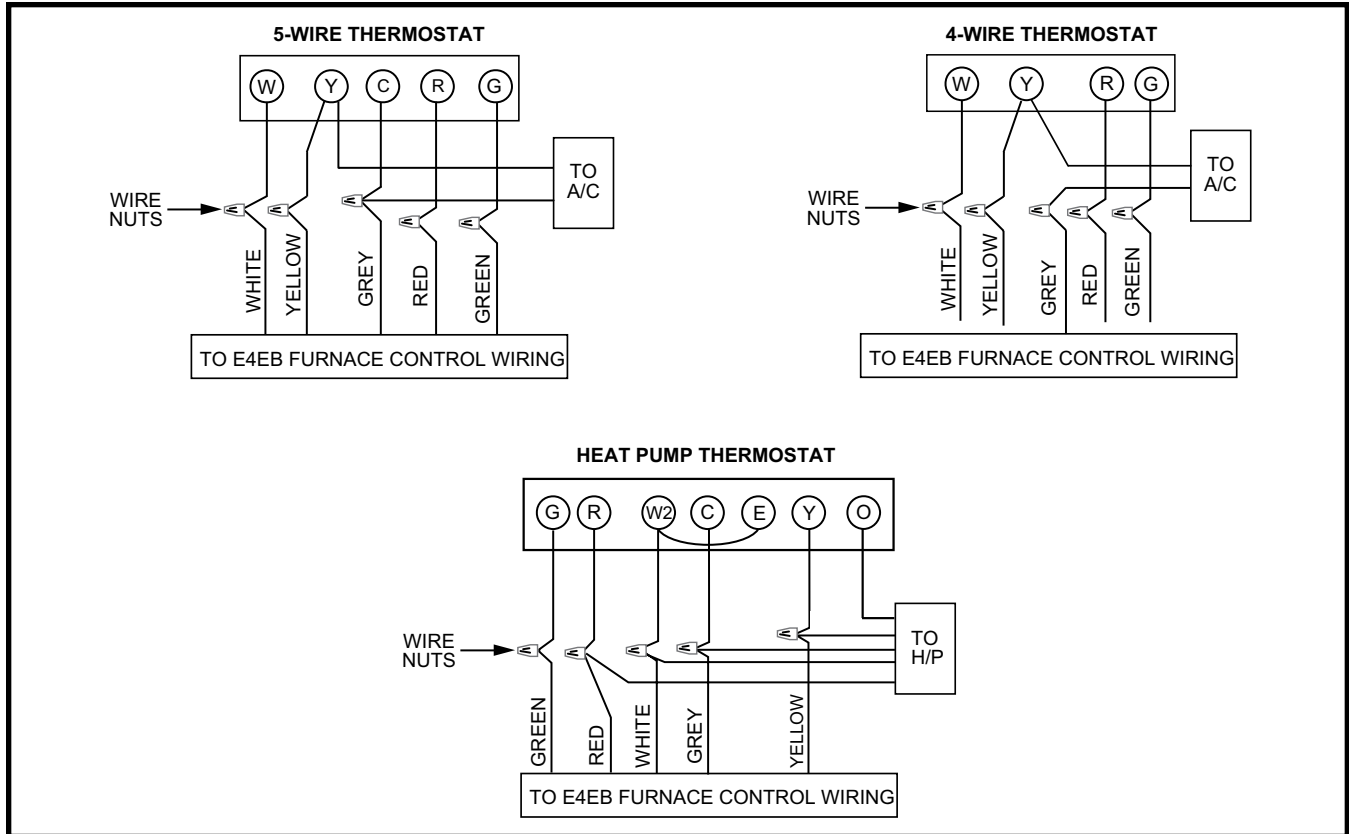

Figure 21. E6EB Thermostat Connection
- The thermostat should be mounted about 5 feet above the floor on an inside wall. DO NOT install the thermostat on an outside wall or any other location where its operation may be adversely affected by radiant heat from fireplaces, sunlight, or lighting fixtures, and convective heat from warm air registers or electrical appliances. Refer to the thermostat manufacturer's instruction sheet for detailed mounting information. See Figure 21 (page 16) for typical thermostat connections.
NOTE: Installation of at least a four-wire thermostat circuit is required with five-wire circuit recommended for future addition of a heat/cool thermostat. Any unused thermostat leads must be properly capped. See Figure 21 \(page 16\) for various E6 thermostat connections.